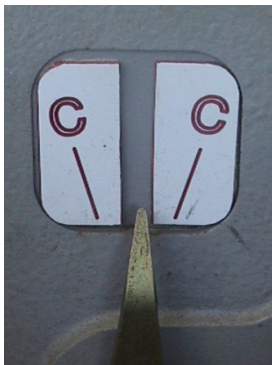
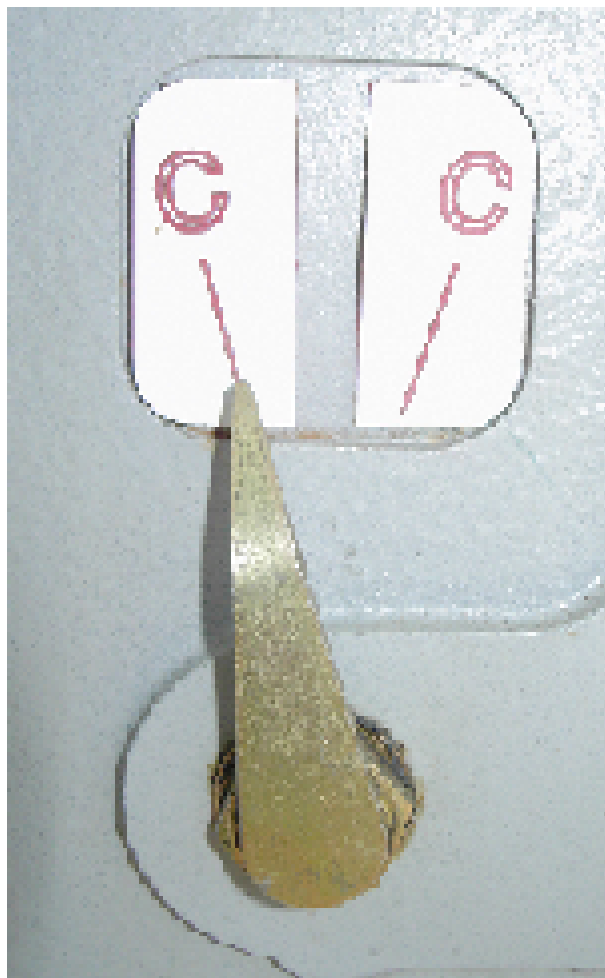

Figure 1: Unlocked position
Figure 2: Locked Position
4. Hand wind the 'a' machine until the points unlock. The external mechanical indicator shows the points in the unlocked position (Fig.1 below).
9. At the end of the switch travel, continue winding the 'b' machine until the mechanical indicator shows the points are in the correct position and locked (Fig. 2 above).
12. Complete the remaining hand winding until the mechanical indicator shows the points are locked in the correct position (Fig. 2 above).
2. If the indicator is in the unlocked position (Figure 1), use the crank handle to move the points to the required setting until the indicator on each machine shows the points are locked in the correct setting (Figure 2).
3. The hand crank will keep moving at the end of the points travel with added resistance. The external mechanical indicator must be used to check the points are locked in the correct setting, as shown in (Figure 2).